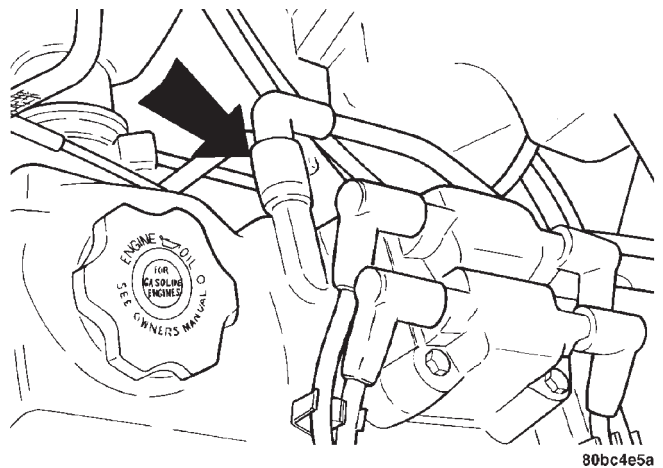
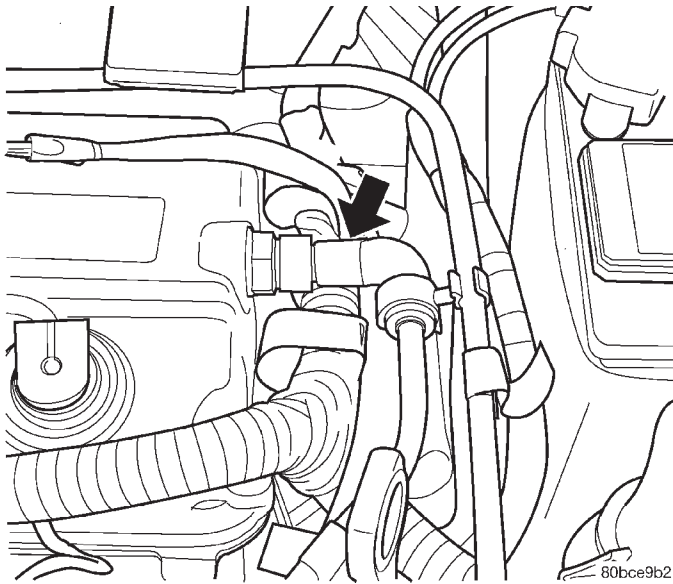

Fig. 39 CCV Hose
Fig. 40 PCV Valve Hose
- (1) Disconnect CCV (Fig. 39) and PCV (Fig. 40) hoses from cylinder head cover.
(4) Connect CCV (Fig. 39) and PCV (Fig. 40) hoses.